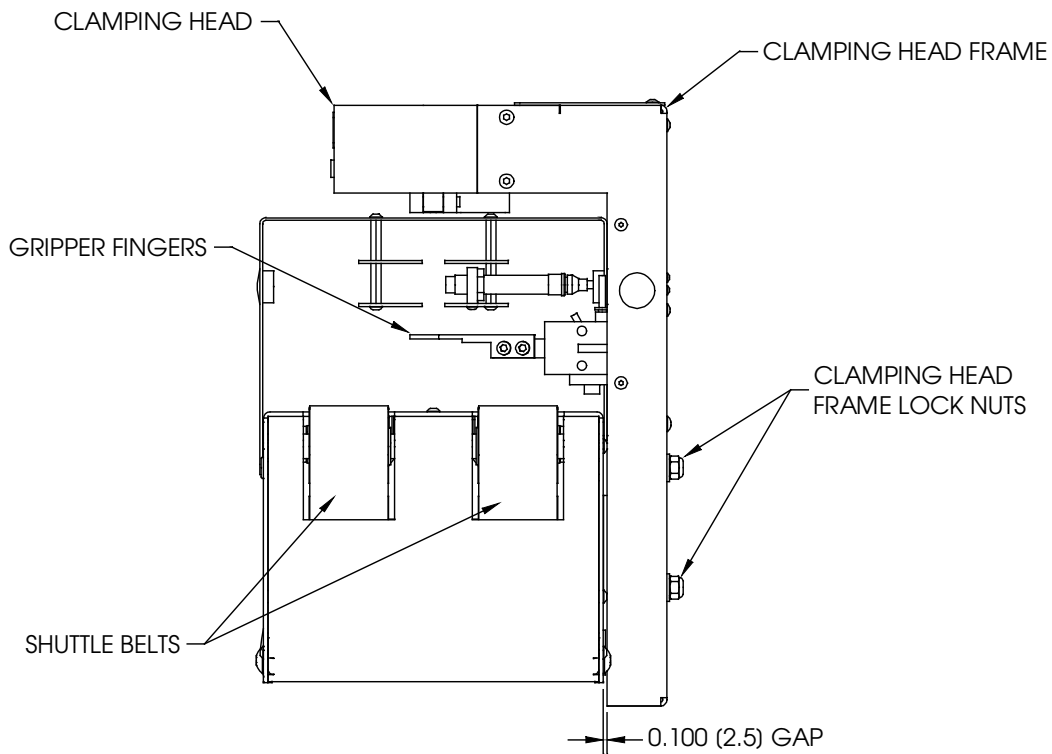

Figure 12. Clamping Head Frame Adjustment
4. Loosen the (4) four Clamping Head Frame Lock Nuts on the back of the Clamping Head Frame (Figure 12) enough to allow it to move along the vertical slots.
6. Make sure that the Clamping Head Frame is level. This means that the amount of vertical adjustment slot showing is the same on both sides of the Clamping Head Frame. The gap between the Shuttle and the Clamping Head Frame should be approximately 0.100 in. (2.5 mm). Additional adjustment nuts are located inside the Clamping Head Frame to set the gap. Tighten the (4) four Clamping Head Frame Lock Nuts to secure the position of the Clamping Head Frame.